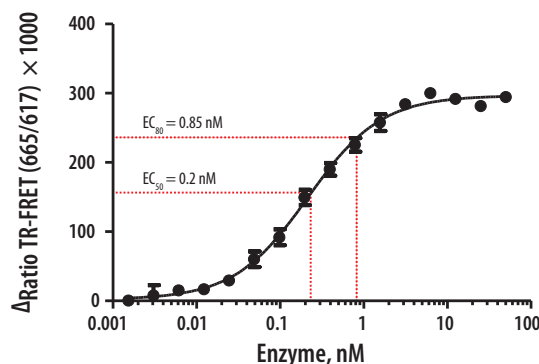

Figure 3. Enzyme titration curve. Based on this curve, the optimal enzyme concentration would be 0.85 nM.
You will need to perform a pilot experiment to determine the optimal enzyme concentration to yield initial velocity conditions (substrate consumption $\leq 20\%$) and produce a sufficient assay window. The optimal enzyme concentration should be determined by serial titration, using the same conditions that will be used for screening or profiling. We recommend an enzyme concentration that produces 50–80% of the maximal change in FRET (EC_{50} to EC_{80} ; see Figure 3).
7. Plot the ratio of 665/617 nm on the Y axis vs. the enzyme concentration on the X axis. Use 4-parameter fit to determine the EC_{80} value as shown in Figure 3.